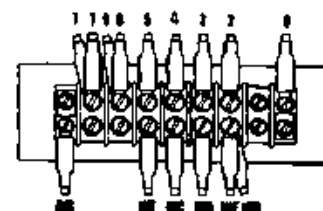

Figure 13-4. Heater Installation (South Wind)
#### 13-8. REMOVAL OF HEATER. (Refer to Figure 13-4.)
### 13-9. INSTALLATION OF HEATER. (Refer to Figure 13-4.)
- a. Position the heater on its mounting brackets. Extend the exhaust tube (16) through and the lower end of the shroud, over the fitting that is attached to the bottom panel of the nose section.
- b. Connect the combustion air inlet hose to the combustion air blower (17) and secure with screw, washer and nut.
- e. Connect the ventilating air inlet hose (18) to the forward end of the heater and secure with clamp.
- f. Connect the fuel line (2) to the fuel control valve (3) and then replace valve cover.
- g. If the air distribution box (8) was not installed during heater build-up before installation, install the box and secure with screws.
- h. If the air heat control cable (10) was disconnected from the air distribution box (8), connect the cable at the valve arm and on the box. Position the cable wire and shroud to allow the valve full travel in the box. Ascertain that the wire attachment assembly rotates freely on the valve arm.
- i. Also if disconnected, connect the cabin heat hoses (6) & (7), defroster cable (11) and hot air dump hose (12) on the air distribution box and secure with clamps.
- j. Connect the electrical leads to the terminal block of the heater as shown in Figure 13-4.